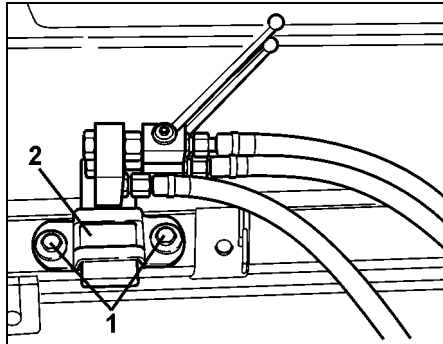

Fig. 76
- Drill two holes ($\varnothing$ 12 mm) for the fixing bolts (Fig. 76/1) in a suitable.
- Fit carrier (Fig. 76/2) with the fixing bolts (Fig. 76/1).